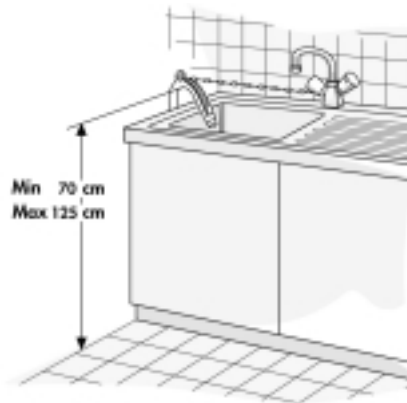

Fig. 2
- 2. Fit the drain hose either to the siphon or hook it over the edge of a sink or bath tub with the "U" bend (Fig. 2). Small hand basins are not suitable. The edge of the tub must be no higher than 125 cm above the floor.
Make sure that there are no kinks in the drain hose run and take precautions against it falling while the appliance is running (Fig. 2).